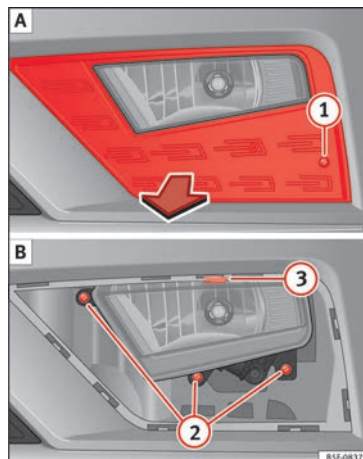
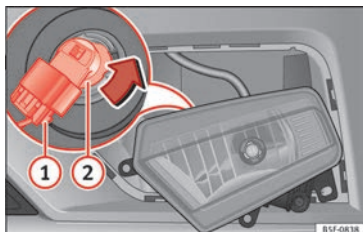

Fig. 110 Fog light: extracting the grille.
Fig. 111 Fog light: remove the bulb holder
1. Remove the screw » **Fig. 110** (1) **A** from the fog light grille using a screwdriver and extract the grille.
2. Remove the 3 screws » **Fig. 110** (2) **B**.
3. Remove the metal clip situated on the upper part of the fog light by pulling away from the vehicle (3) **B** and extract the fog light.
4. Remove the connector » **Fig. 111** (1) from the bulb.
5. Turn the bulb holder (2) anti-clockwise and pull.